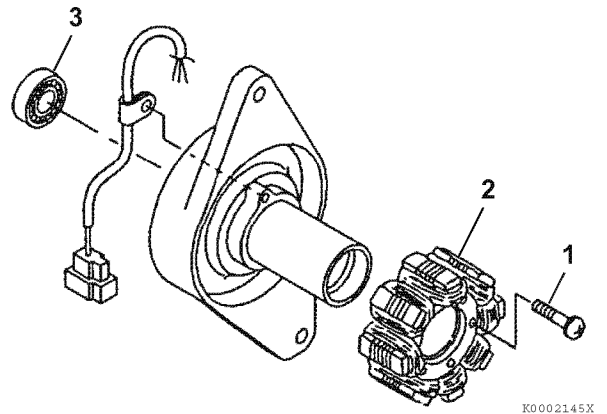

Figure 12-27
1. Reinstall the rear bearing (3, **Figure 12-27**).
2. Reinstall the stator (2, **Figure 12-27**) and screws.